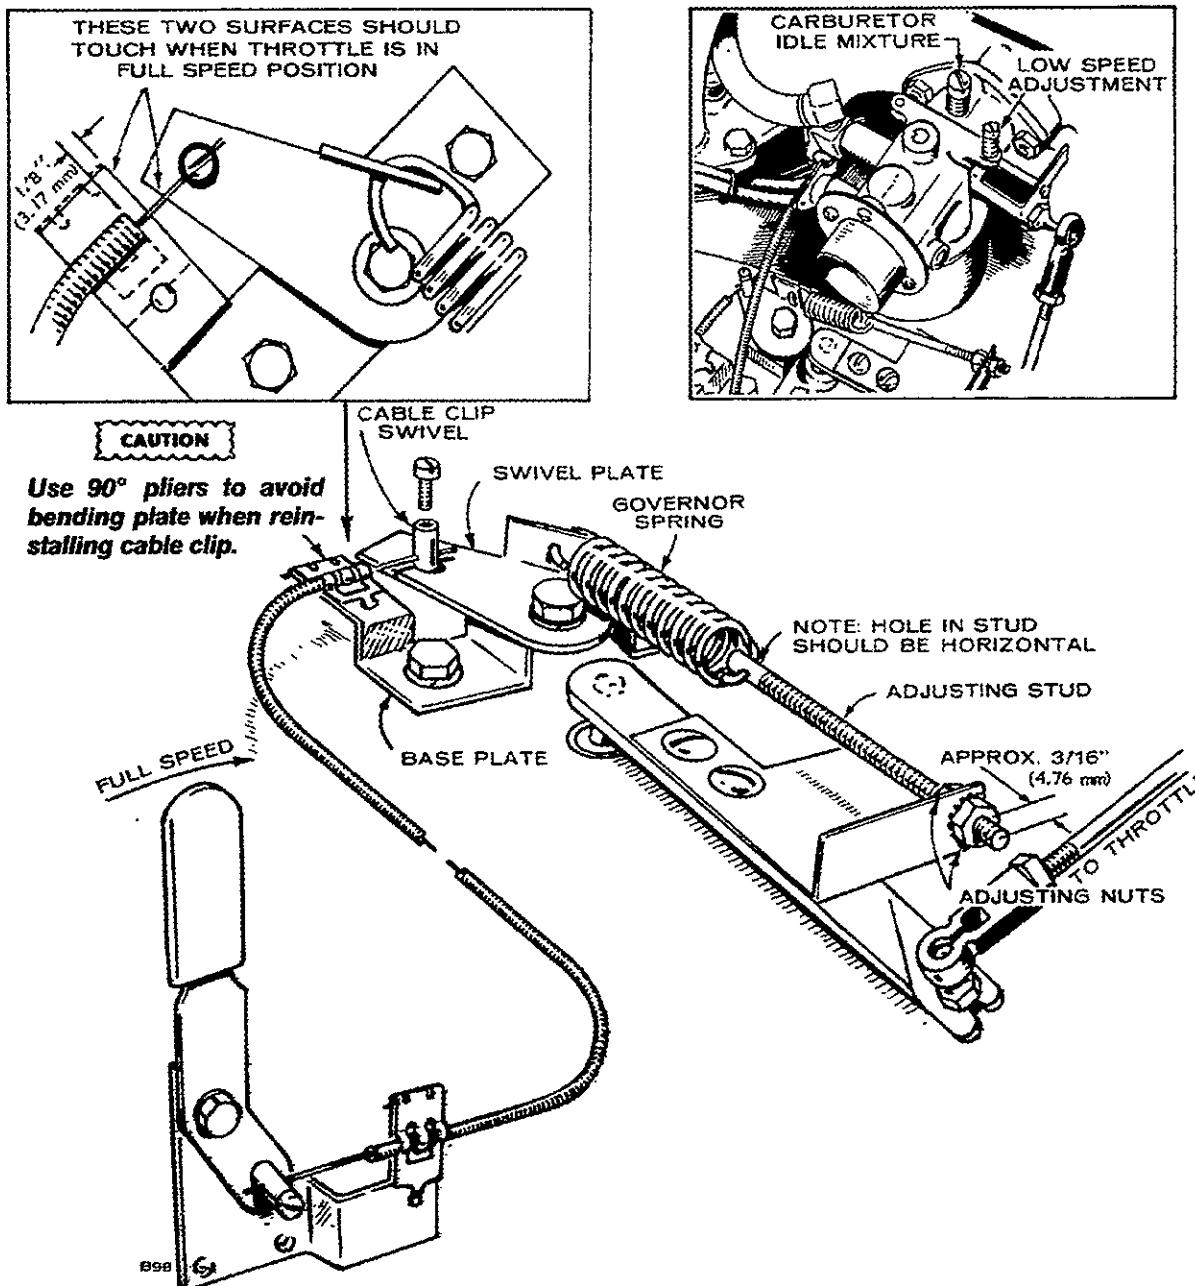

FIGURE 13c. CCK8 TRACTOR GOVERNOR
Low Speed Adjustment: A tachometer is required to accurately set the governor speed when the throttle is held closed (Figure 13c).
1. Use a screwdriver to adjust the low speed stop screw so the engine runs at 1200 (± 100) rpm when the throttle is held closed (Figure 13c).